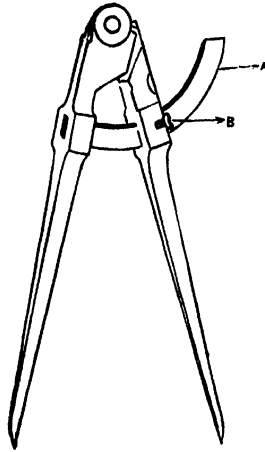

Fig. 92.
**The Compass.**—This tool is used for drawing circles on wood. A common form is shown in Fig. 92. This form is called the Wing Compass.